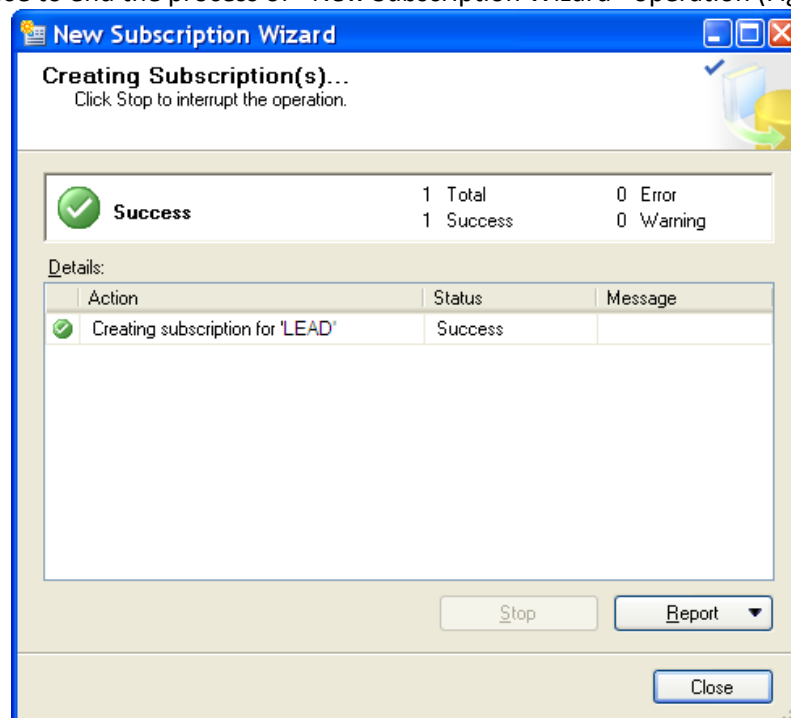

Fig. 9.3-21 Subscription creation task performing status
22. In the opened window «Creating Publication» there will be displayed the process of creating a new subscriber (Fig. 9.3-21)
23. Click Close to end the process of «New Subscription Wizard» operation (Fig. 9.3-21).